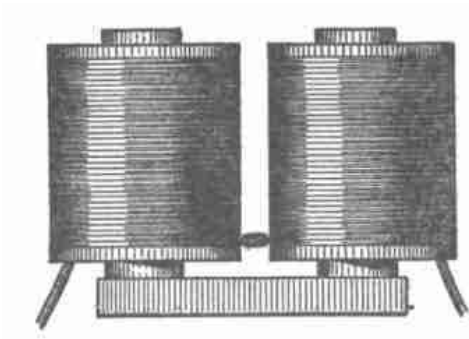

Fig. 44
14. *Electric Clocks, Self-winding Clocks, Programme Clocks.*—A pretentious-looking thing which appeared like a dish pan with a glass bottom was opened by the boys and found to be the simplest of all clocks. It had an electro-magnet like that in Fig. 44. A strip of iron acting as an armature across the free ends of this magnet, pushed like a finger against the cogs of a wheel. This wheel was on the axle of the minute hand and it had sixty cogs. The electric circuit was closed through the magnet for an instant each minute and the armature pushed the wheel ahead one cog. Thus it made one complete revolution in an hour. A train of four other cog-wheels caused the hour hand to trail after at one twelfth the speed of the minute hand. This machinery made simply a small handful in an eighteen-inch stamped-metal "dish-pan" costing fifteen dollars.